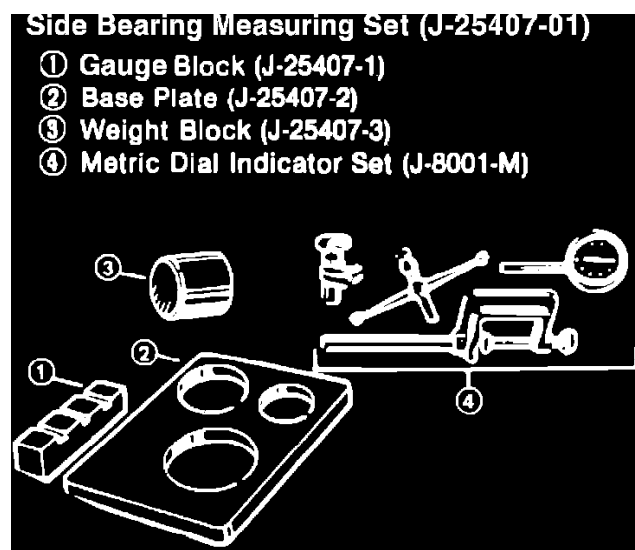

Fig. 40 Side bearing thickness measuring tools
- Calculate variables  $E$  and  $F$  using tool kit no. J-25407-01, **Fig. 40**, as follows: